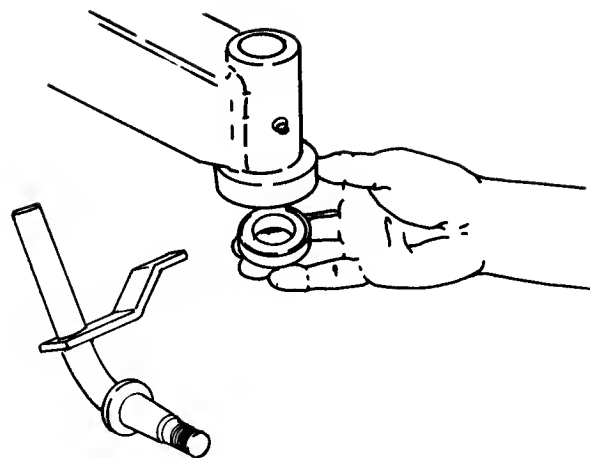

FIG. 2.32 — LOWER SPINDLE BUSHING
4. Drive lower bearing out and reinstall new. Figs. 2.32 and 2.33.